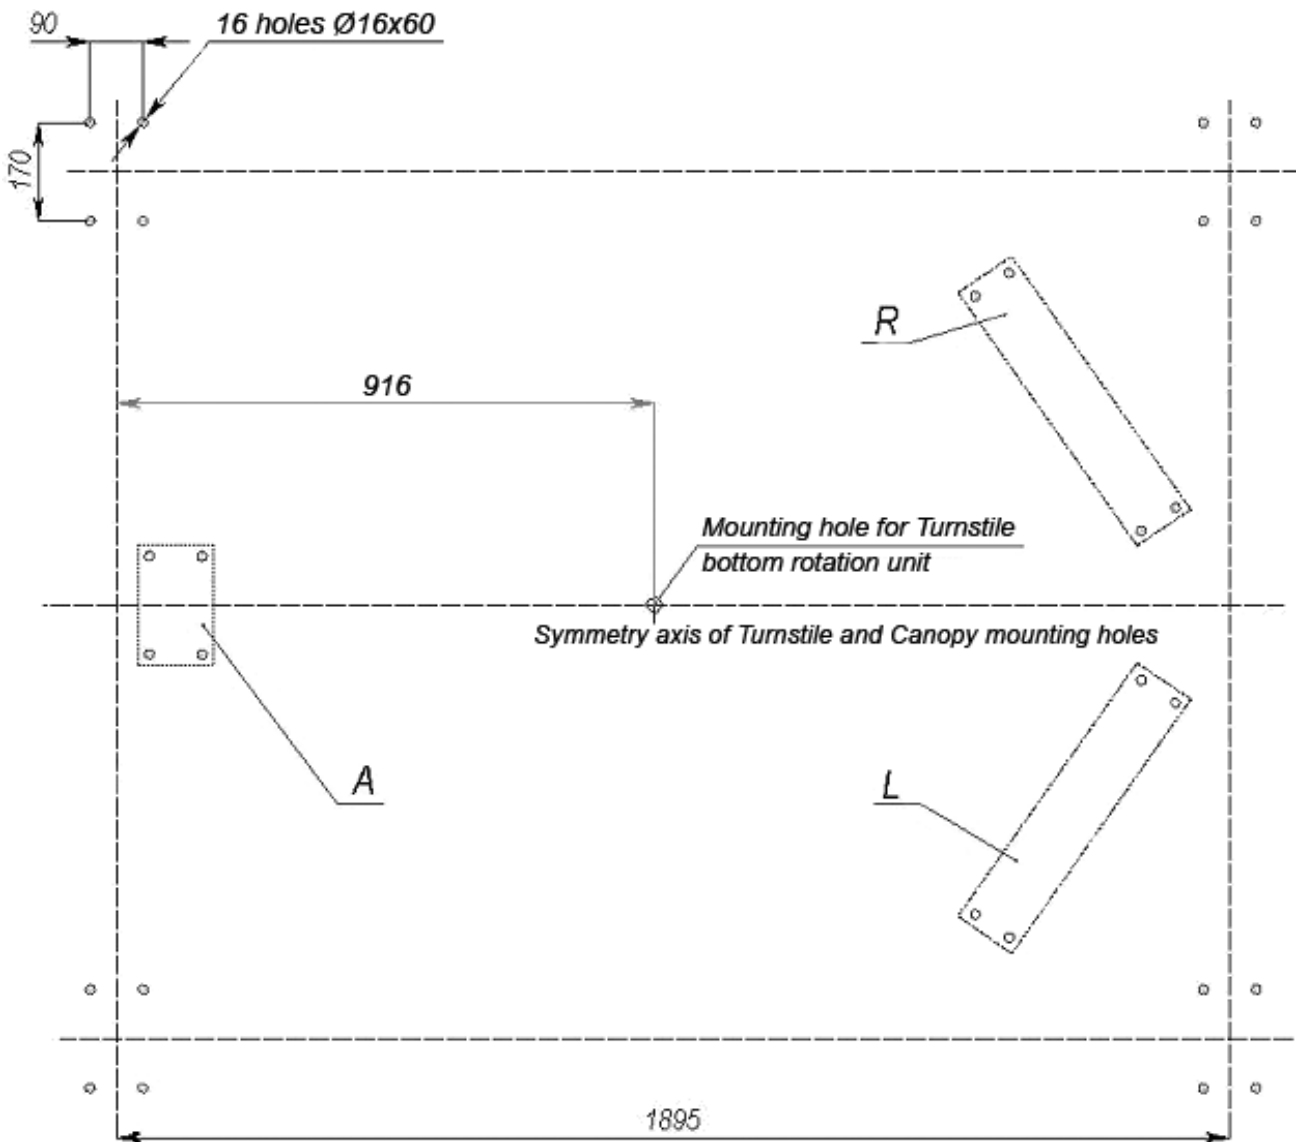

Fig. 3. Hole pattern for mounting of the canopy posts (3) relative to the turnstile mounting holes:
· «Right» and «left» names for the roof sections are conventional and correspond to the name of the RTD-15 turnstile guide barrier section (Fig. 3, 7) below (see Operation Manual for the RTD-15 full height rotor turnstile).
8.2.3 Mark out the mounting holes for installation of the posts (3) according to Fig. 3.
Note. Carry out the marking together with that for turnstile mounting holes given in the Operational Manual to the RTD-15 Full Height Rotor Turnstile. Symmetry axis of turnstile and canopy mounting holes geometrically coincide (Fig. 3).
Figure 3 shows a sketch layout of the turnstile mounting holes.